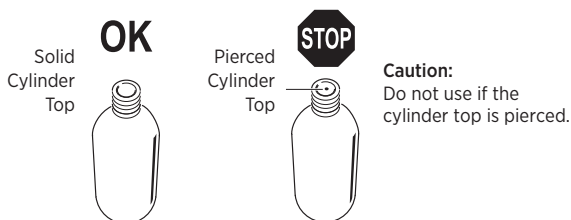

FIGURE 8 CHECKING CO₂ CYLINDER
Inflation will occur automatically within ten seconds after the inflator is immersed in water. The water-sensing bobbin will disintegrate, triggering a spring-loaded plunger, which punctures the CO₂ cylinder (Fig. 8) to inflate the PFD.
9. Check the new cylinder. Ensure that the CO₂ cylinder has not been pierced (Fig. 8).
3. Check the new cylinder to ensure that it has not been pierced (Fig. 8).
- 01.** Remove the CO₂ cylinder/bayonet assembly to prevent inadvertent inflation, which could potentially damage the PFD. Inspect the cylinder to confirm it is unused (Fig. 8). Unscrew and remove the cap and the bobbin. Otherwise the bobbin will disintegrate during water immersion.